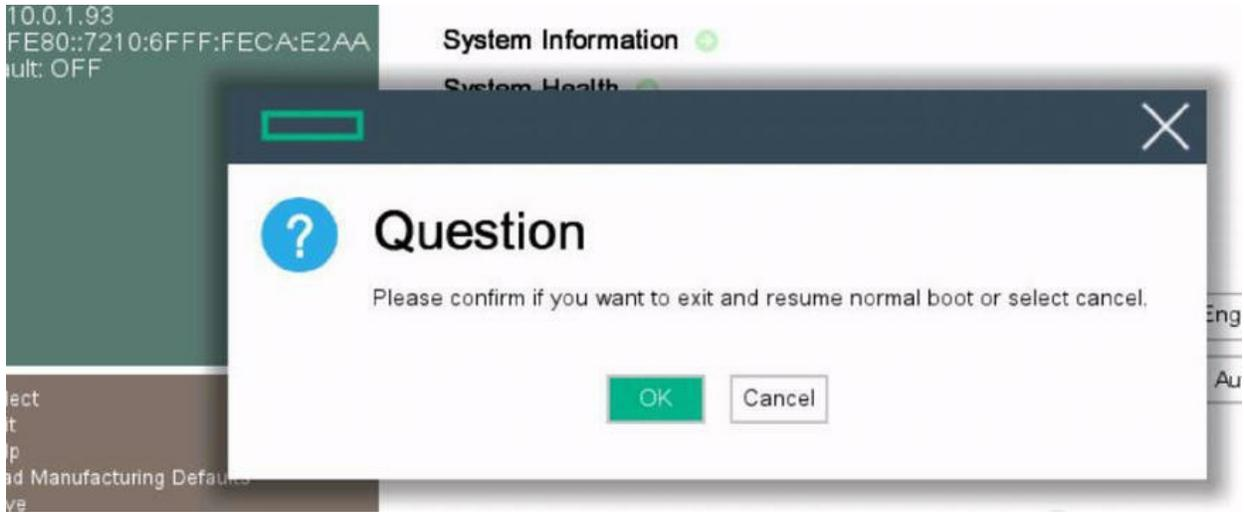

Figure 2-115 Click to confirm reboot
- Click **Exit**, in the pop-up select **Cancel** or **OK** to reboot the system, as seen in Figure 2-115.